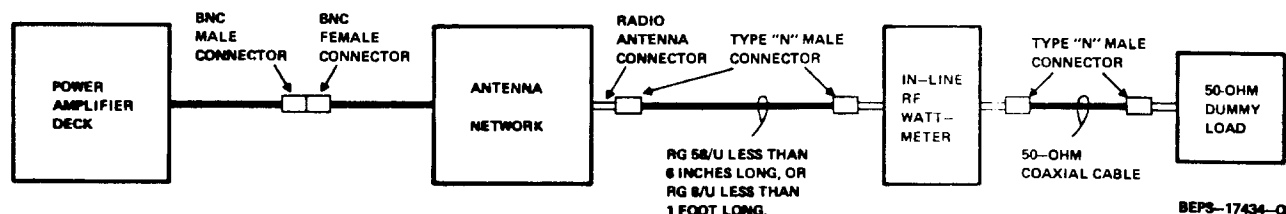

Figure 18.
Step 1. Connect a thru-line rf wattmeter, a 50-ohm, non-reactive, dummy load, and adapter cables as shown in Figure 18.